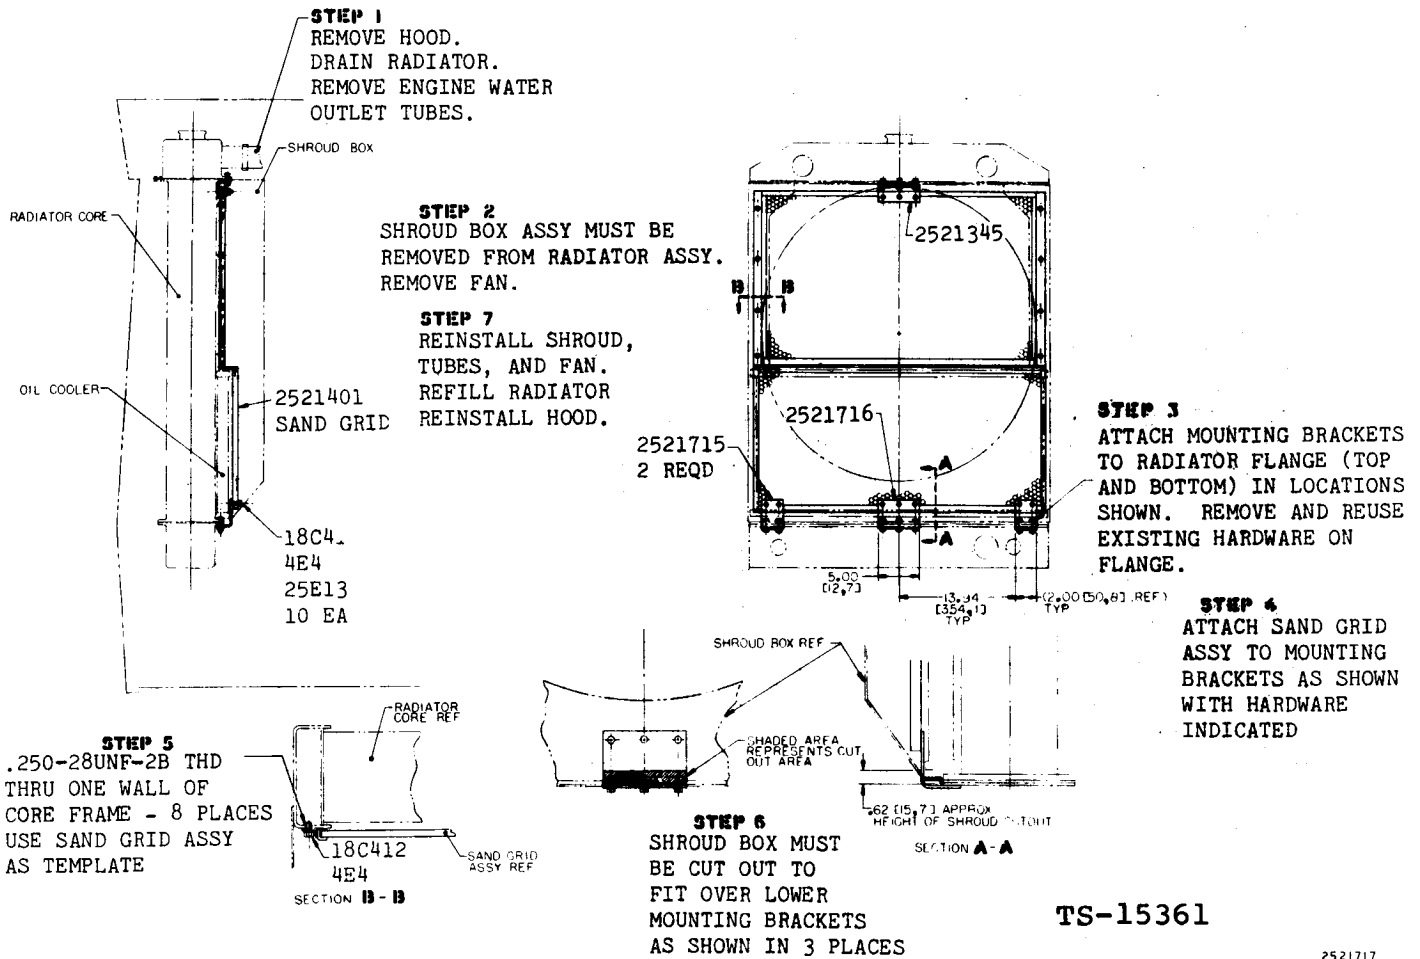

Figure 1. Installation of Radiator Sand Grid Kit for Model 175B, S/N 427C & 438C.
1. See the correct installation drawing and install the sand grid kit as shown. Use Figure 1 for Model 175B S/N 427C and 438C. Use Figure 2 for Model 275B S/N 425C & 425D, 479A and 280-111A S/N 456B. Use Figure 3 for 280-111A S.N 460C. Use Figure 4 for 380-111A S/N 418A, 418B, 418C and 418D. Use Figure 5 for 380-111A S/N 418E and 434A. Use Figure 6 for 475B S/N 421G, 421H, 421J and 420B.